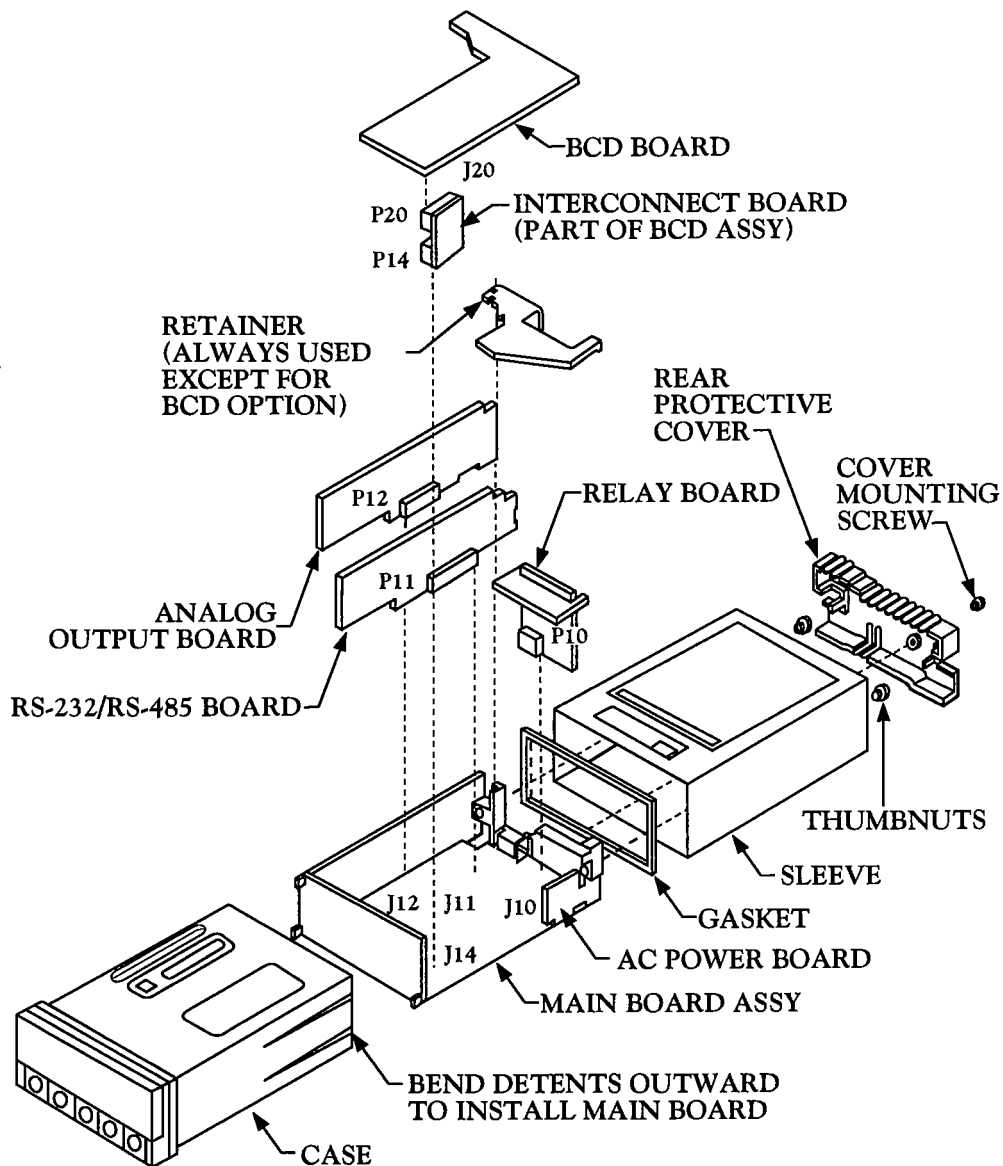

Figure 5-5. Optional Printed Circuit Board Locations
2. Using Figure 5-5 as a reference, insert option board(s) into the corresponding slot(s) on the main board. Each circuit board is keyed to fit in its own position.